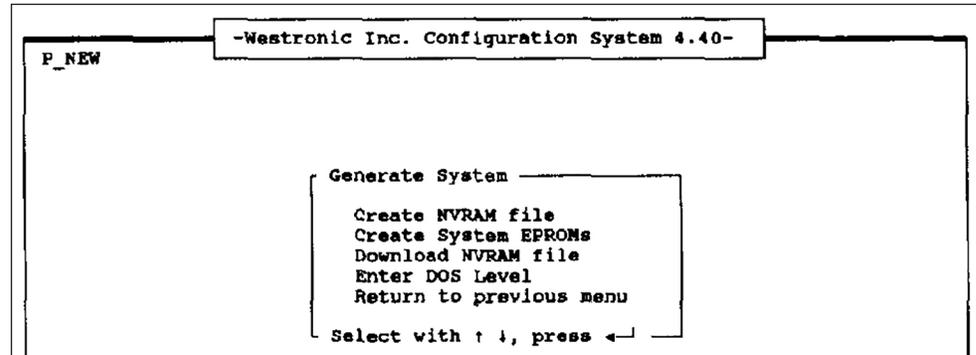

Figure 17. The *Generate System Menu* screen.
STEP 12. Using the arrow keys, select the **Generate System** option, and press the <ENTER> key. The *Generate System* screen will open. See Figure 17 on page 16.